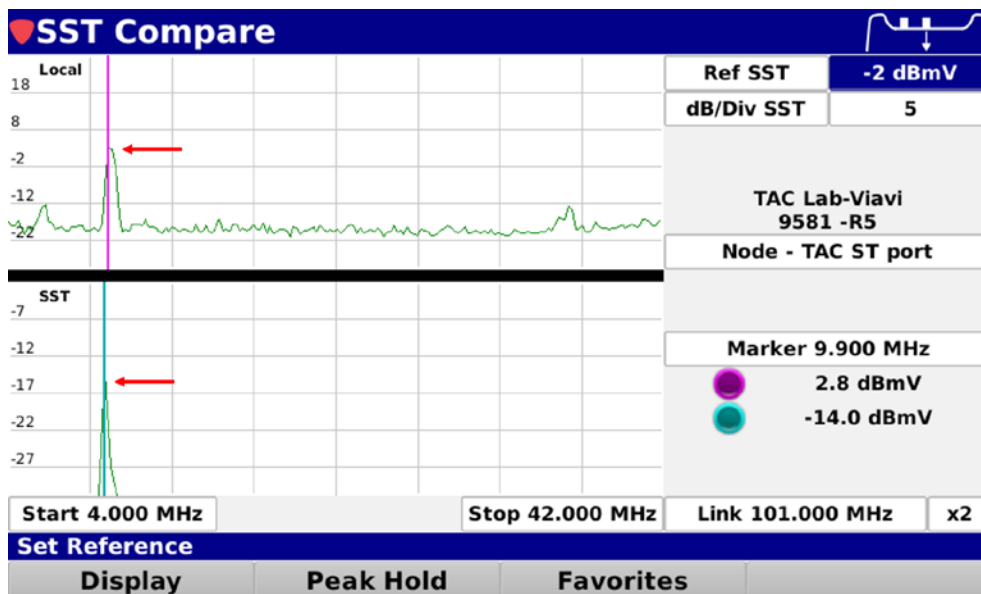

Figure 8 – 1G display shows 5dB drop in bottom half of screen
- g. If the ingress is downstream from the testing location, the ingress will drop 5dB on the SST portion of the screen (Figure 8)